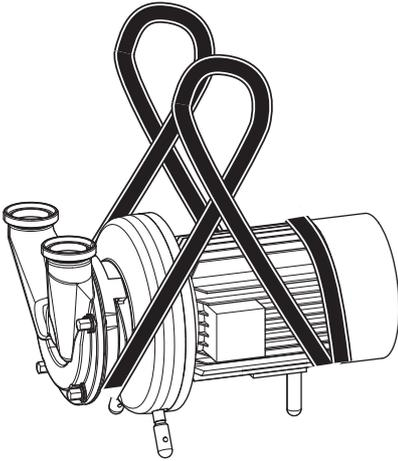

Fig. 15 Moving with crane
1. Wrap the round sling twice around the back end of the motor. Do not lay over the fan shroud (see *Fig. 15, "Moving with crane," page 11*).